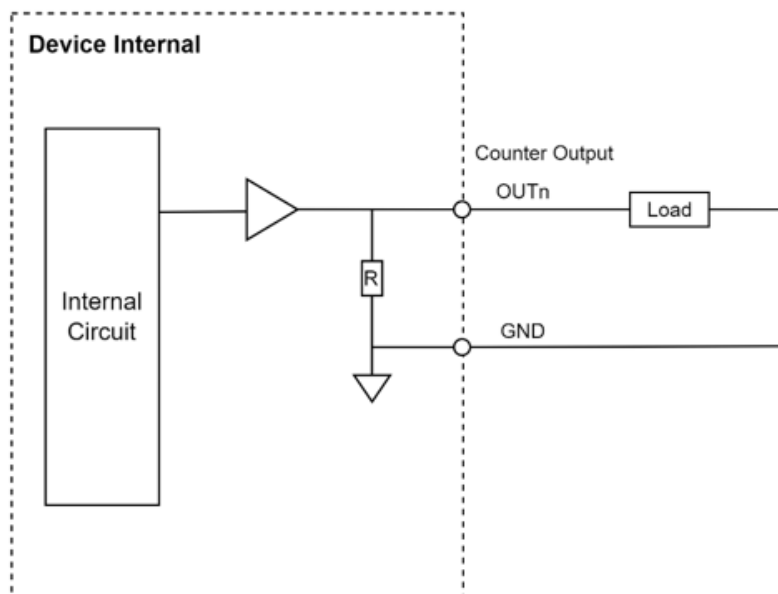

Figure 2.5 Counter output signal connection.
A digital input/output (DI/O) channel can be configured by software to perform digital input measurement, which is the power-on default configuration, or digital output generation. When configured for digital output generation, a voltage logic level is produced between the digital output (DO) terminal and the digital ground (GND) terminal. This is shown in Figure 2.5.